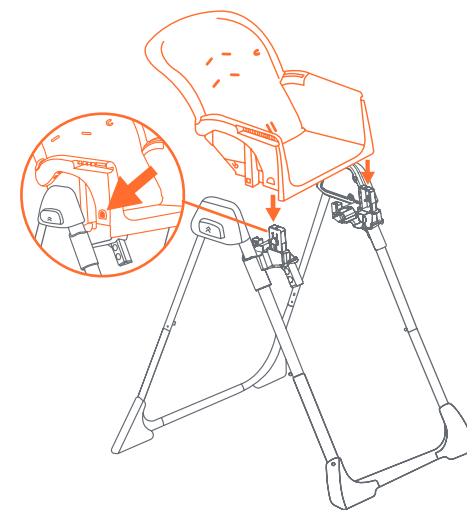

Fig. 5e
- Align the Seat Base into the Height Brackets. Ensure the brackets are locked into the Seat Base (Fig. 5e).